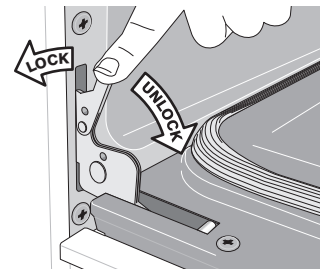

Figure 22: Door hinge locks
2. Pull the door hinge locks on both left and right door hinges down from the oven frame completely towards the oven door (See Figure 22). A tool such as a small flat-blade screwdriver may be required.
4. Push the door hinge locks up towards and into the oven frame on both left and right oven door hinges to the locked position (See Figure 22).